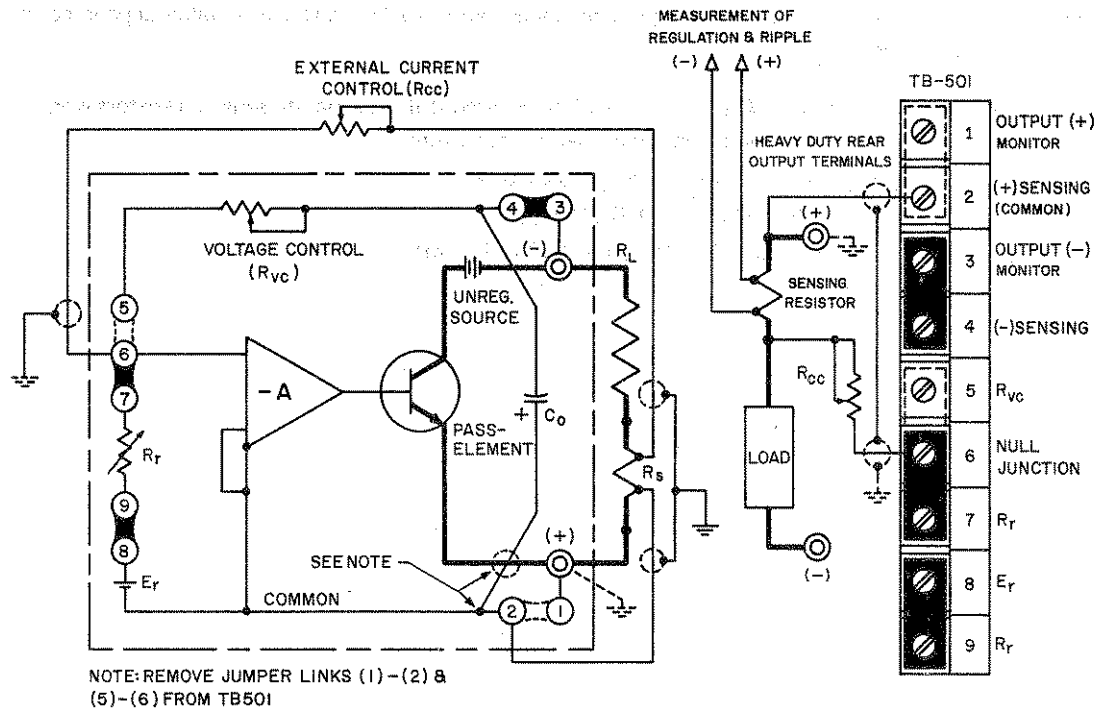

FIG. 3-9 CONSTANT CURRENT OPERATING MODE
- 3-30 A KEPCO power supply can be set up to deliver constant current by the addition of an external sensing resistor and a current control. In the constant current operating mode, the voltage comparison bridge is interconnected with an external current sensing resistor,  $R_S$ , and a current control,  $R_{CC}$  (as shown in FIG. 3-9) to maintain a constant voltage drop across  $R_S$ . In this way, an adjustable constant load current is obtained. Characteristic of the constant current supply is ability to change its output voltage automatically in order to maintain a constant current through a range of possible load resistances. The range of output voltage that the supply can deliver and simultaneously maintain constant current, is referred to as the "COMPLIANCE VOLTAGE".
3-33 PROCEDURE (Refer to FIG. 3-9)